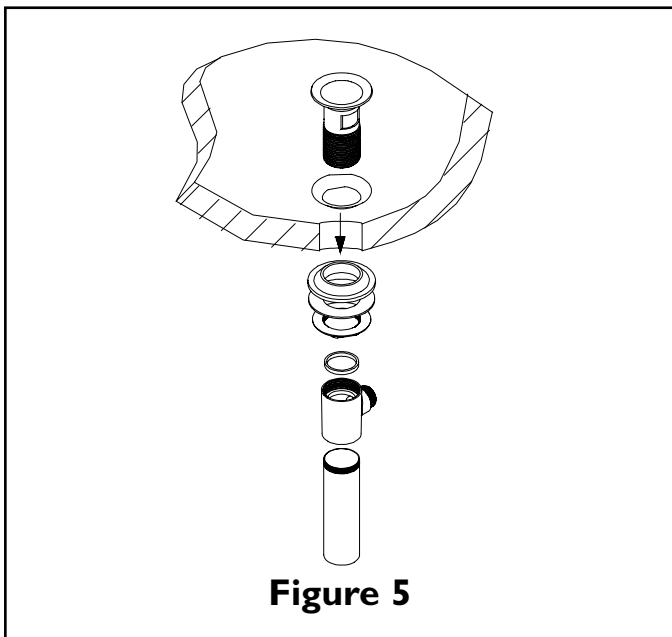

Figure 5
8. Remove drain plug from flange. Place flange & white washer through sink drain opening. (Clear silicone may be used in place of white washer.) From bottom side of sink, place cone shaped rubber washer onto flange & slide up against sink bottom. Note: Cone portion of washer to face upward. Next slide on clear flat washer and secure with flange nut. Place clear washer into drain body & tighten to flange. Apply thread sealant to tailpiece and attach to drain body. Attach tailpiece to p-trap drain (not included). See Fig. 5